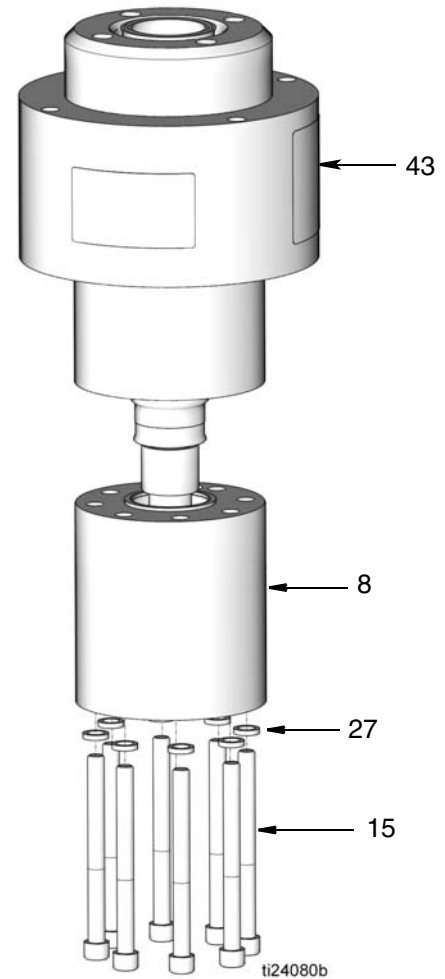

FIG. 6
3. Remove eight capscrews (15) and washers (27) from bottom of pump adapter (8). Tap pump adapter to loosen it and pull it off the motor housing (43) (FIG. 6).
4. Remove eight capscrews (15) and washers (27) from bottom of pump adapter (8). Tap pump adapter to loosen it and pull it off the motor housing (43) (FIG. 6).